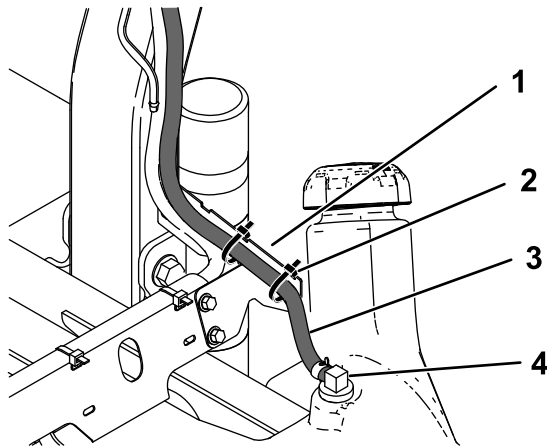
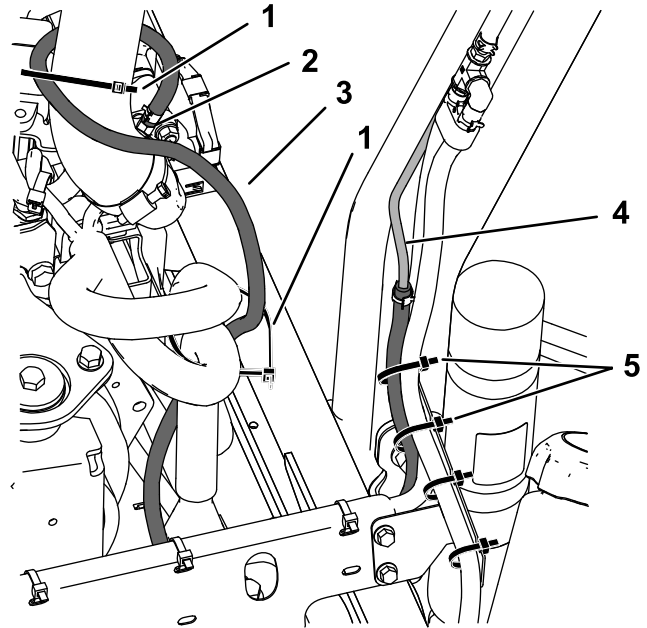

Figure 11
Figure 12
9. Connect the left hose (1/4 x 19 inches) to the fitting near the filler neck using a hose clamp (1/2 inch) as shown in Figure 11.
12. Secure the hose to the small bracket using 2 cable ties (Figure 11).
13. Connect the rear hose (3/16 x 53 inches) to the fuel vent line using a hose clamp (1/2 inch) as shown in Figure 12.
14. Route the hose down the roll bar, then up to the engine manifold port. Connect it to the port using a hose clamp (13/16 inch) as shown in Figure 12.
15. Secure the hose to engine hoses using 2 cable ties (Figure 12).
16. Secure all 3 hoses to the small bracket using 2 cable ties (Figure 12).
3. Place the seat on the fuel tank so that the seat brackets are between the kit brackets and the fuel tank (Figure 11 and Figure 12). Connect the wire harness to the seat.